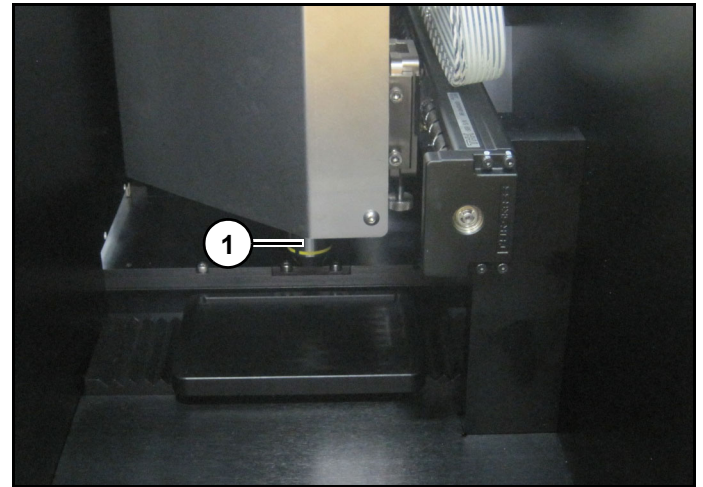

Figure 12
1. Ensure objective (1) (*Figure 12*) is tight by hand tightening.